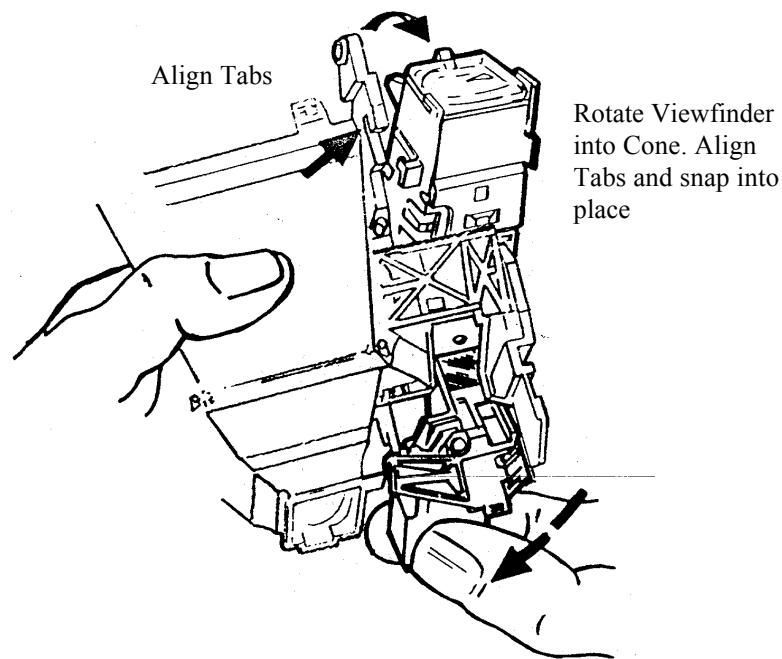

Figure 4-28 Installing Viewfinder Assembly
- b. Position V/F Assembly at an angle (see Figure 4-28) so that tab clears the pivot arm of the Cone.